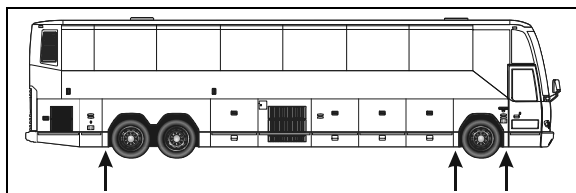

FIGURE 5: JACKING POINTS ON FRAME
1. Raise vehicle by its jacking points on the body (fig. 5 or see Section 18, "Body" under heading "Vehicle Jacking Points"). Place jack stands under frame. Remove drive axle wheels (if required, refer to Section 13, "Wheels, Hubs And Tires".